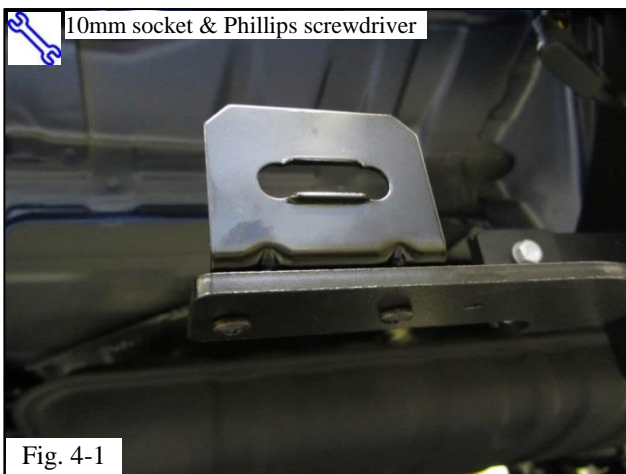

Fig. 4-1
- (a) Use two sets of provided screws and nuts/washers to attach the L-shaped bracket for the trailer connector into the hitch bracket (Fig. 4-1).